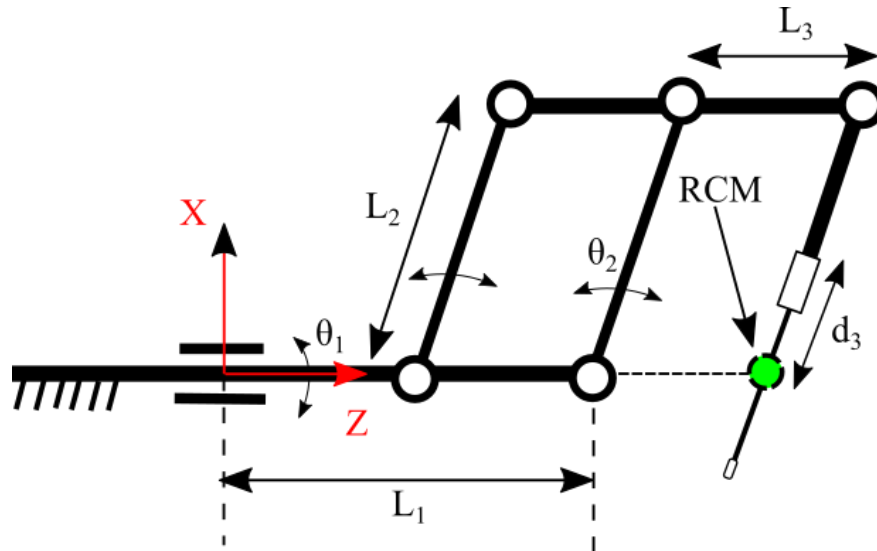

Fig1. Kinematic Structure of 3-DOF parallelogram based robot. To better understand the above schematic, see this link.
**Project:** Consider 3-DOF parallelogram-based robot in Fig.1. Such kinematic structure has been used in many surgical robots such as Da Vinci and PRECEYES.